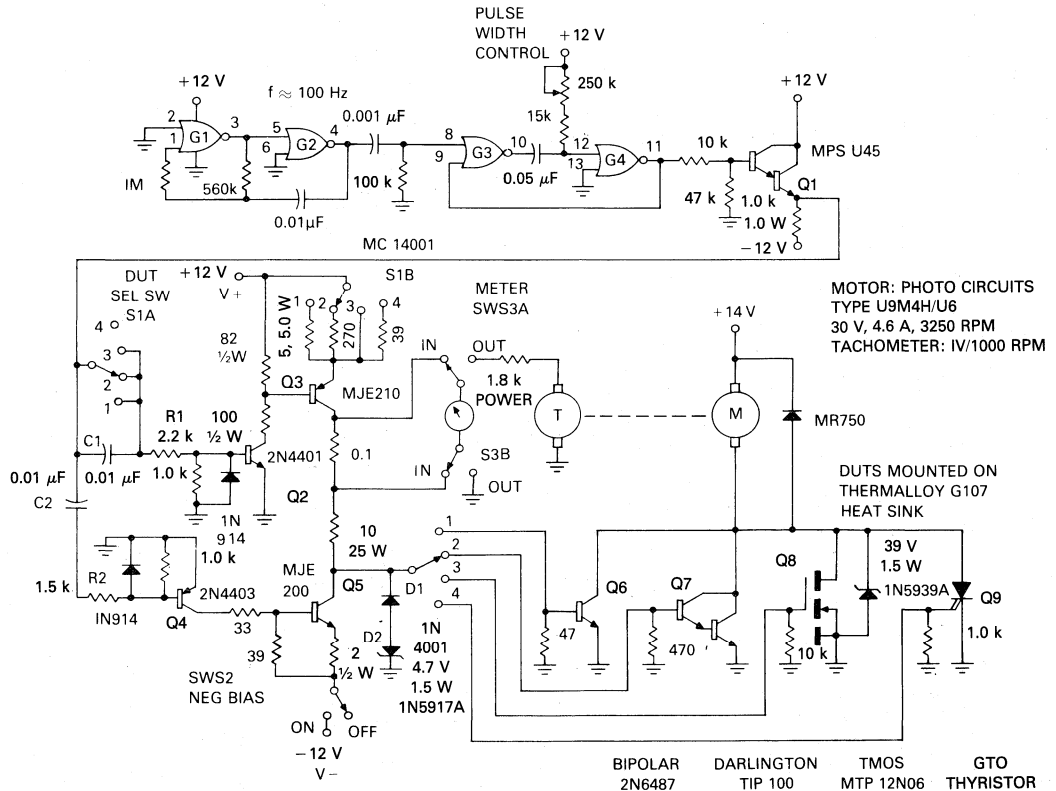

FIGURE 10-9 — TEST CIRCUIT FOR MEASURING RELATIVE EFFICIENCY OF DUT
The test circuit, shown in Figure 10-9, consists of a two gate CMOS, astable multivibrator (MV) clocking a CMOS configured monostable multivibrator (MV) to produce the approximate 100 Hz, variable pulse width output. Dar-